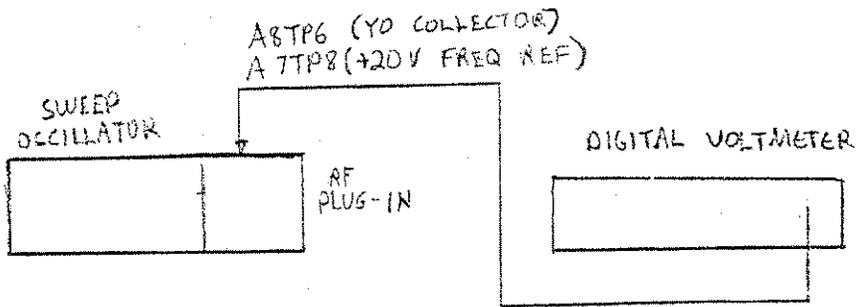

Figure 5-7. Y0 and YTM DAC Calibration Test Setup
1. Connect the equipment as shown in Figure 5-7 with the DVM connected to A8TP6 (YO COLLECTOR) and A7TP8 (+20V FREQ REF). Refer to Figure 5-8 for test point and adjustment locations. Allow the RF plug-in to warm up for 1 hour.